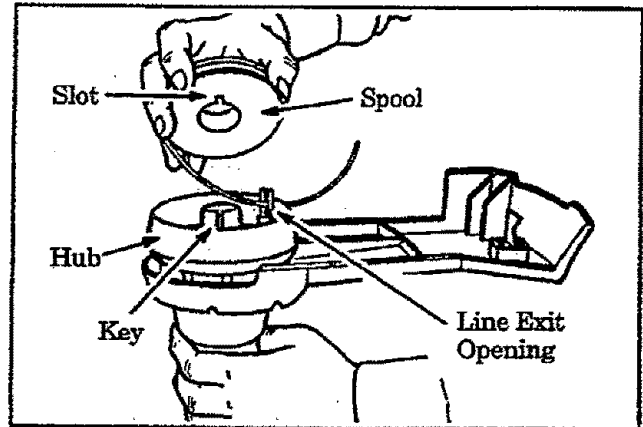

Figure 10
- Remove the spool. Figure 10.
- Align the Slot in the spool with the Key in the Hub. Figure 10. Set the spool into the Hub. Allow 3 to 4 inches of line to extend through the line exit opening. Figure 10.